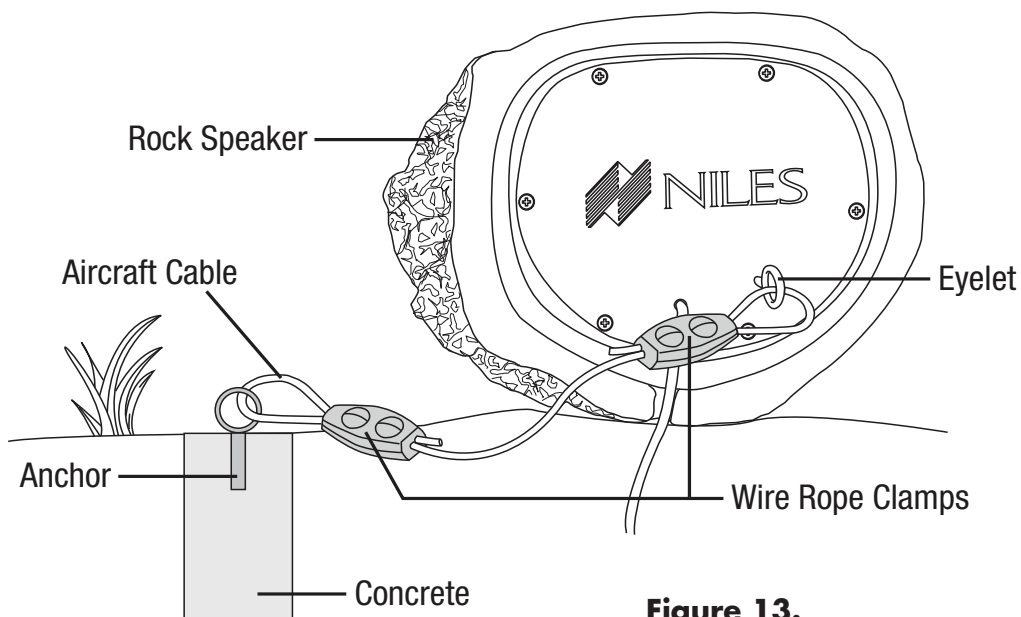

Figure 13.
8. Loop this end of the aircraft cable around the eyelet and back to the aircraft cable. Secure this end of the cable to the main aircraft cable with the wire rope clamp. The upgraded attachment should now look like **Figure 13**.